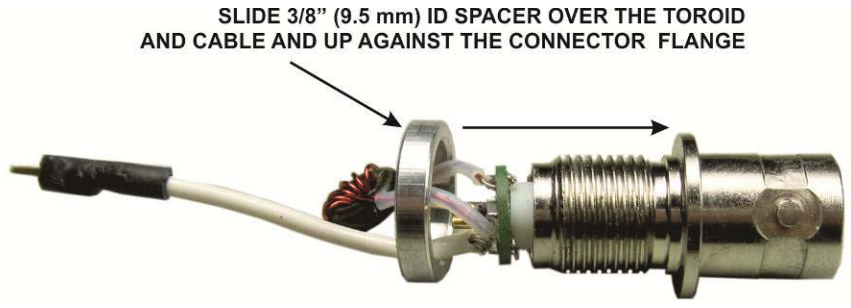

Figure 42. Putting the Spacer on the Antenna Connector.
□ Locate the antenna connector assembly with the low-pass filter (LPF) attached and carefully slide the spacer over the cable and toroid and up onto the threaded portion of the connector (see Figure 42).